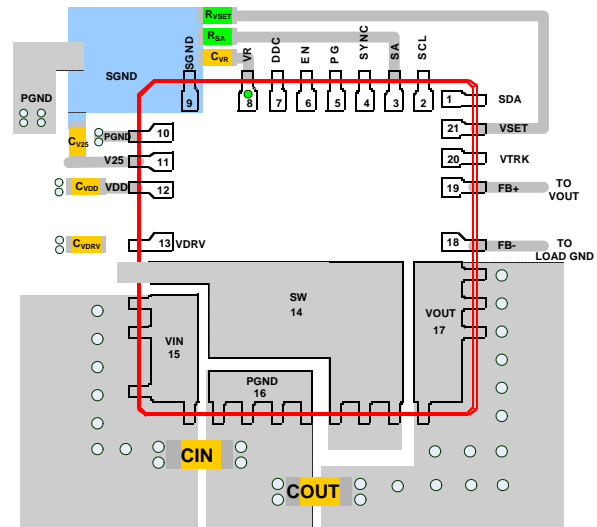

FIGURE 19. RECOMMENDED LAYOUT
- Establish a separate ground plane for SGND (pin 9) and PGND (pin 10 and pin 16) and connect them at a single point as shown in the Figure 19. CV25, CVR, RSA, and RVSET are placed on the bottom layer and are connected to a single SGND plane that is connected to the PGND at a single point. This will help to block the high frequency noise from entering to the controller via SGND.
- Place a high frequency ceramic capacitor between (1) VIN and PGND (pin 16), (2) VOUT and PGND (pin 16) and (3) bypass capacitors between VDRV, VDD, V25, VR and the ground plane, as close to the module as possible to minimize high frequency noise. High frequency ceramic capacitors close to the module between VOUT and PGND will help to minimize noise at the output ripple.